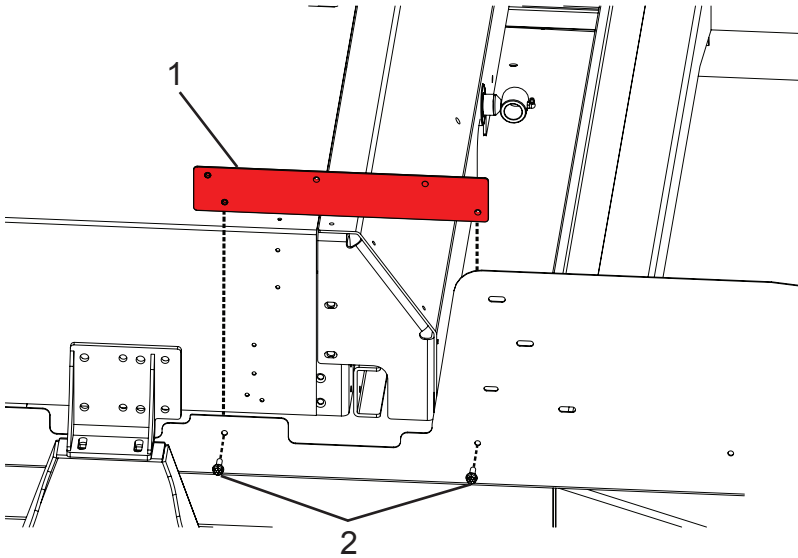

Figure 2
4. Starting on one side of the vehicle, install the rectangle cover piece ensuring the weld nuts are to the inside (Figure 2, Item 1). **NOTE:** Street side (PN 1572664) and curb side (PN 1572666) have different cover pieces.
5. Install (2) bolts (PN 1243637) to attach the cover piece to the vehicle windguard (Figure 2, Item 2).